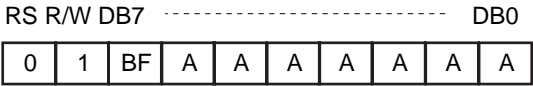

Figure 4 Status Read Instruction
The status read instruction (Figure 4) reads the busy flag (BF) indicating that the system is now internally operating on a previously received instruction. If BF is 1, the internal operation is in progress. The next instruction will not be accepted until BF is reset to 0. Check the BF status before the next write operation. At the same time, the value of the address counter in binary AAAAAAA is read out. This address counter is used by both CGRAM, DDRAM, and SEGRAM addresses, and its value is determined by the previous instruction.